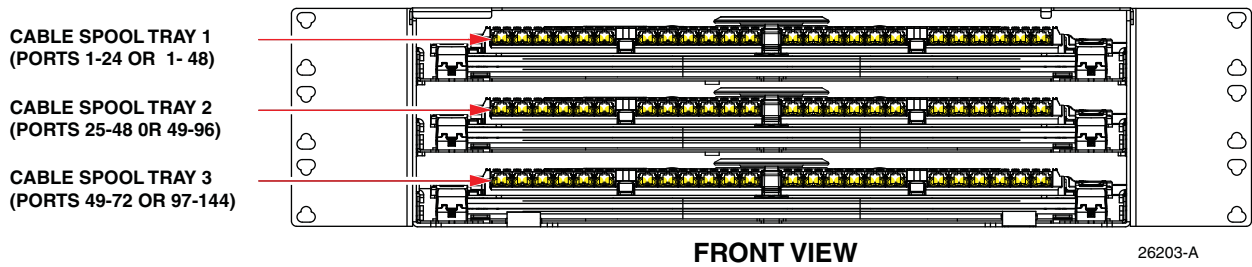
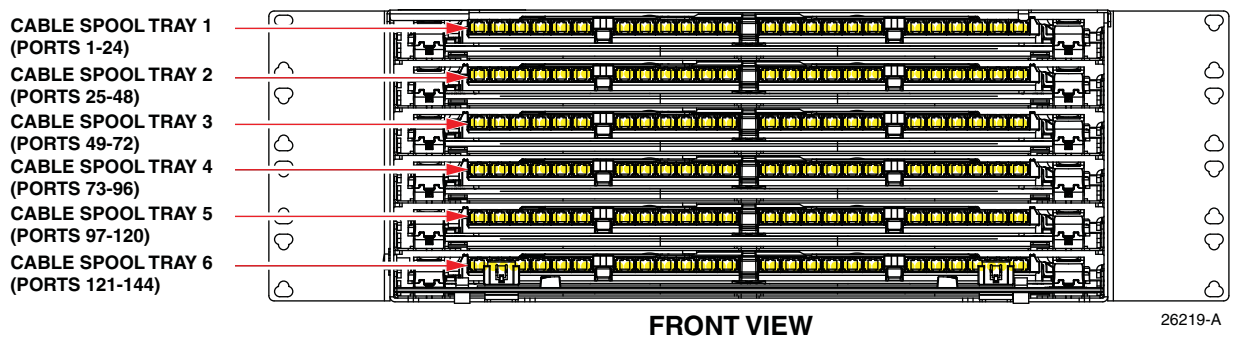
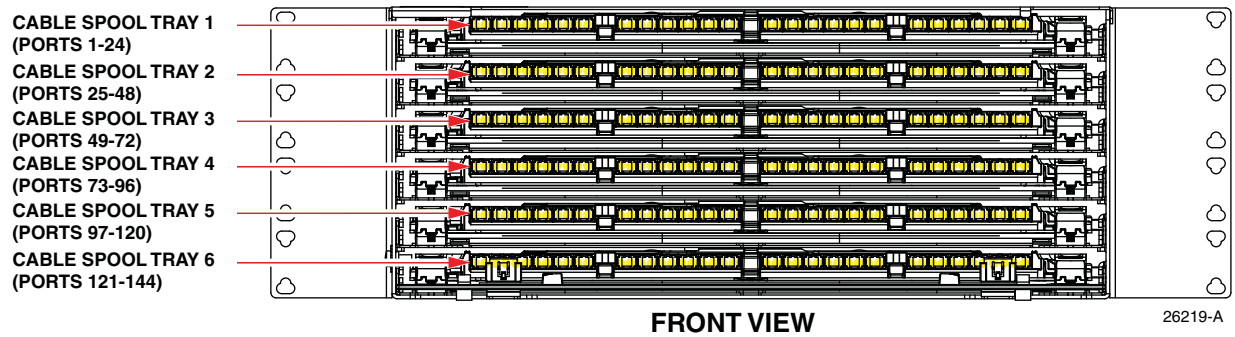

Figure 42. 3RU Panel Cable Spool Tray Mounting Slots and Port Designations
Figure 43. 4RU Panel Cable Spool Tray Mounting Slots and Port Designations (144 Fibers Option)
Figure 44. 4RU Panel Cable Spool Tray Mounting Slots and Port Designations (288 Fibers Option)
- Select which panel shell mounting slot will be used for mounting the RapidReel cable spool tray as shown in Figure 42 (3RU), Figure 43 (4RU 144 fibers option), or Figure 44 (4RU 288 fibers option).